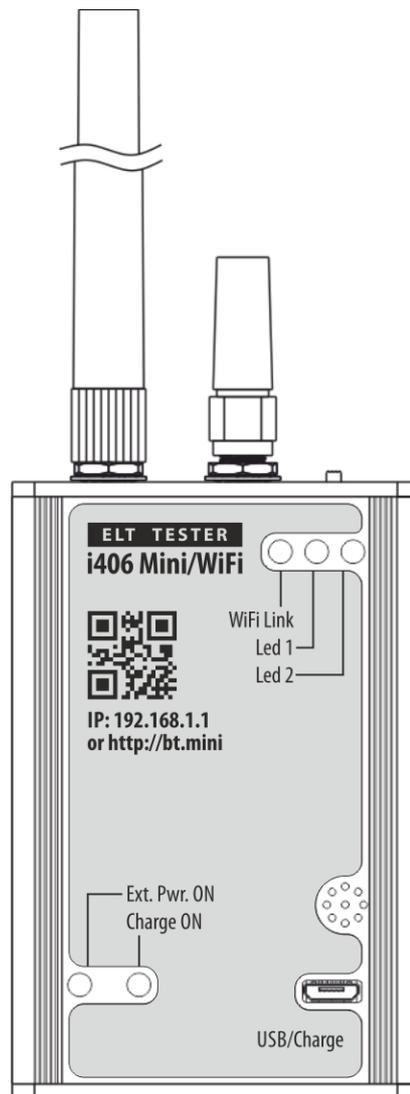

Fig.1-1. Tester's front view
- 1.1 The ELT Tester i406 Mini w/Wi-Fi is designed to check the aviation emergency locator transmitters (ELT) operating via COSPAS-SARSAT system. Tests can be carried out in volume of annual test requirements or in volume of maintenance requirements or for fast check after ELT's encoding or installation. Tester can receive the messages from any 406 MHz COSPAS-SARSAT transmitting either in test mode or in real alert emergency mode. The signal can be received through the broadcast by means of antenna or the tester can be connected directly by means of cable through a suitable attenuator. Tester's main view is shown on the fig. 1-1.